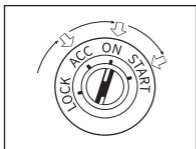

Figure 3.1.4
4. Turn the ignition to the ON position (II) (See Figure 3.1.4), DO NOT start the engine.